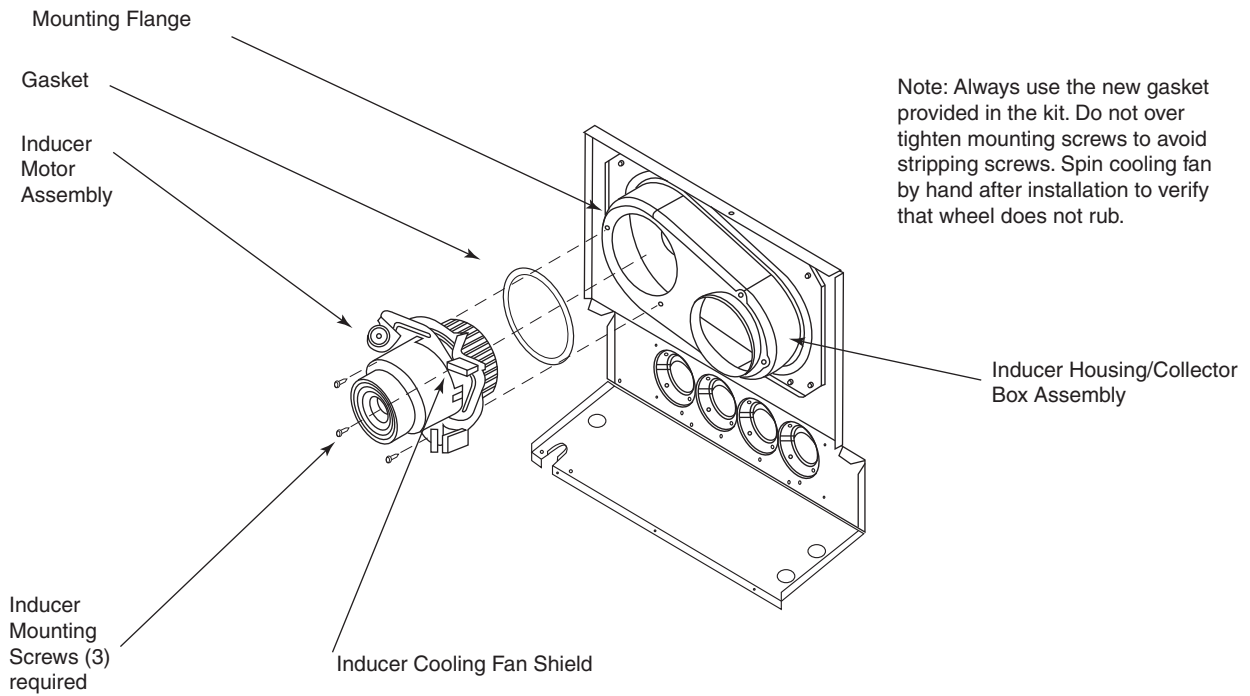

Fig. 1 - Installing the New Inducer Motor
3. Align inducer motor assembly with mounting holes and attach to collector box. Verify inducer motor ground wire is reinstalled in original location and the inducer cooling fan shield on the inducer motor assembly is oriented as shown in Fig 1.